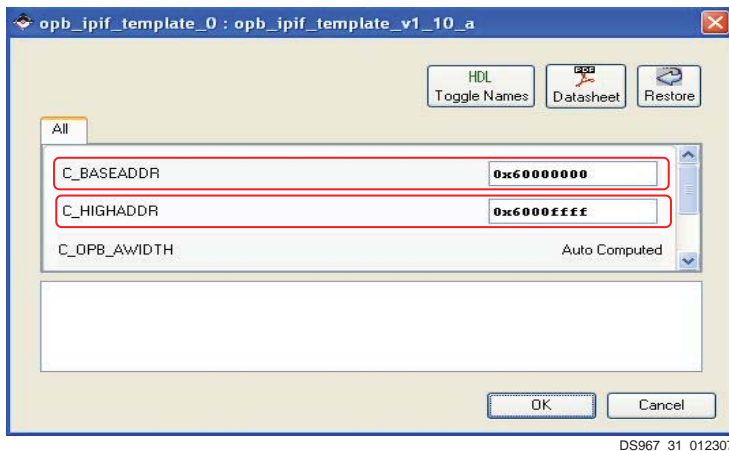

Figure 31: Specifying the Address Range for the Custom IP
6. In the opb_ipif_template_v1_10_a window shown in Figure 31, assign a valid C_BASEADDR to the opb_ipif_template_0, for example: the value 0x60000000.